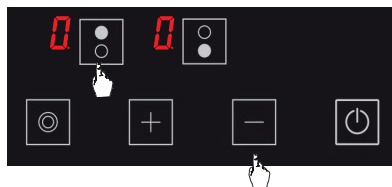

Figure 14
1. Press upper hob selection key (top left) and minus key (bottom right) simultaneously, you shall hear a short warning signal at this time. (see Fig. 14) Then, remove your fingers from the stove control panel.